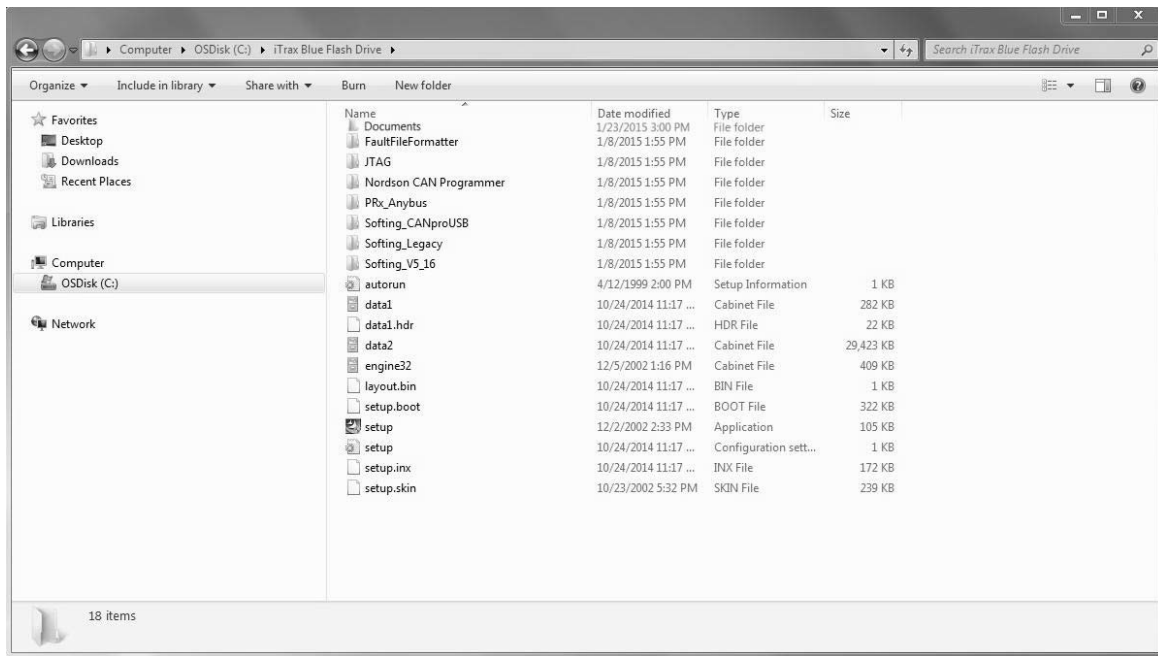

Figure 12 Contents of Blue Flash Drive
5. See Figure 12. Verify the contents of the newly created folder match those from the flash drive.